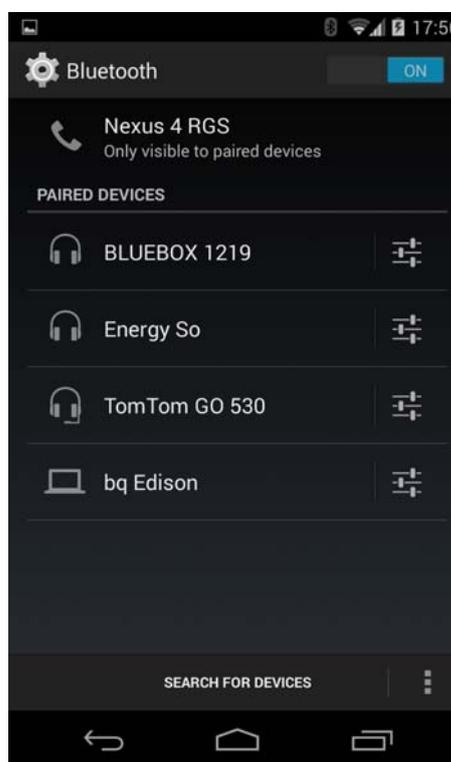

Figure 2
4. Once found, the BlueBox text will be displayed along with the Serial No. of the device. OK to sync (not required to enter any key). Once synchronized the device appears in the list of paired devices. See *Figure 2*.